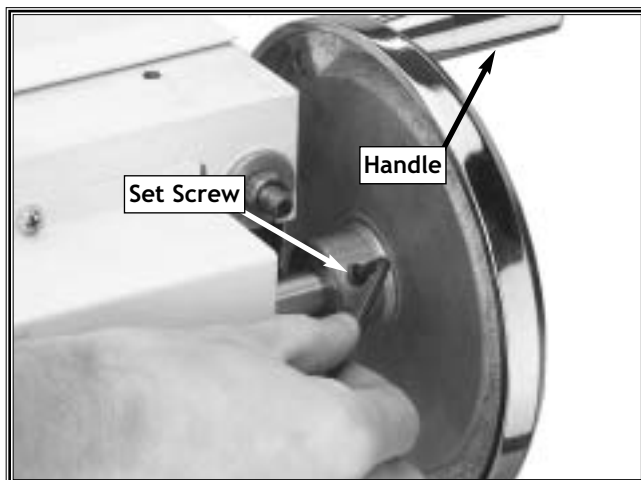

Figure 15. The crank and handle installed.
3. Thread the $\frac{5}{16}$ "-18 x $\frac{1}{2}$ " set screw into the crank to secure the handwheel to the shaft. See **Figure 15**.